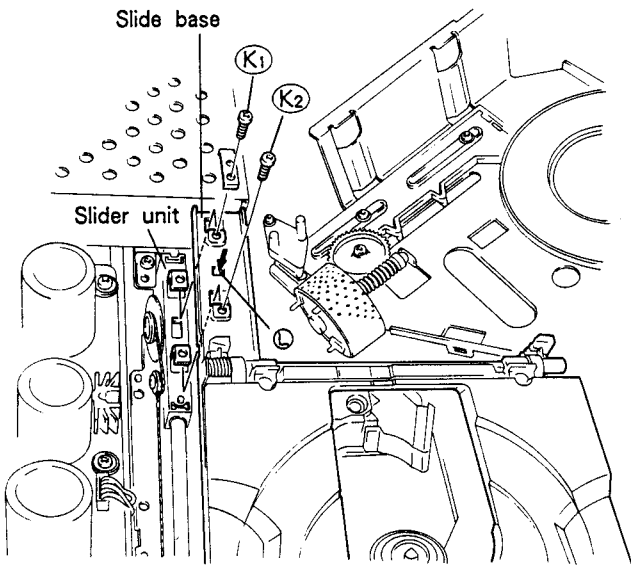

Fig. 2-3.
3. Remove the fixing screws K_1 and K_2 of the tray assembly and remove the slide base from the slider unit of the loading mechanism assembly by pushing the claw L . (Refer to Fig. 2-3).